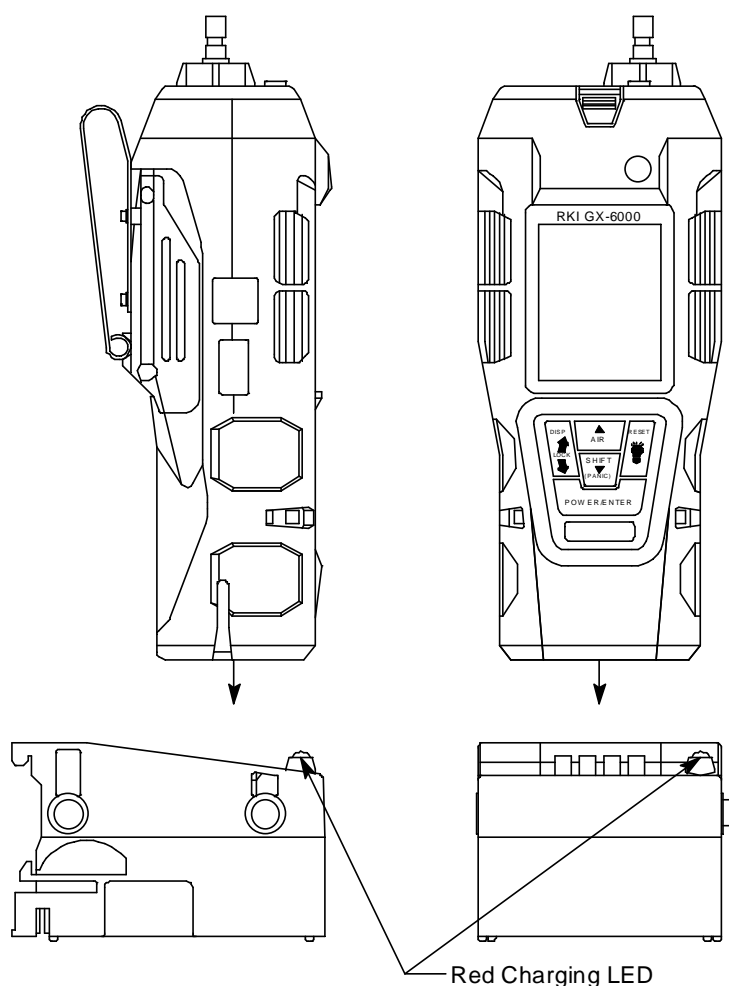

Figure 18: Putting the GX-6000 into the Charging Station
- 4 . Place the GX-6000 into the battery charging station as shown in Figure 18 below so that the metal contacts on the back of the unit come into contact with the metal contacts on the back of the holder in the charging station. When proper contact has been made, the red LED on the charging station will turn on.